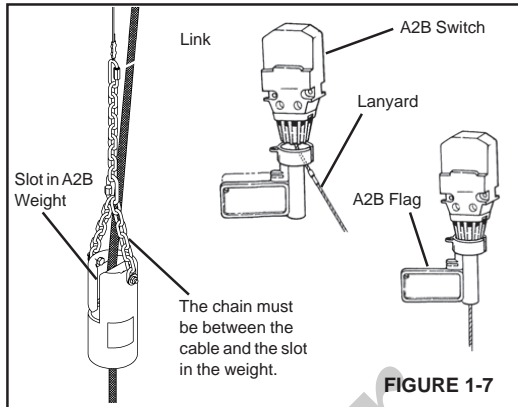

FIGURE 1-7
1. Remove the anti-two-block (A2B) weight and override the A2B system with the A2B flag (Figure 1-7).